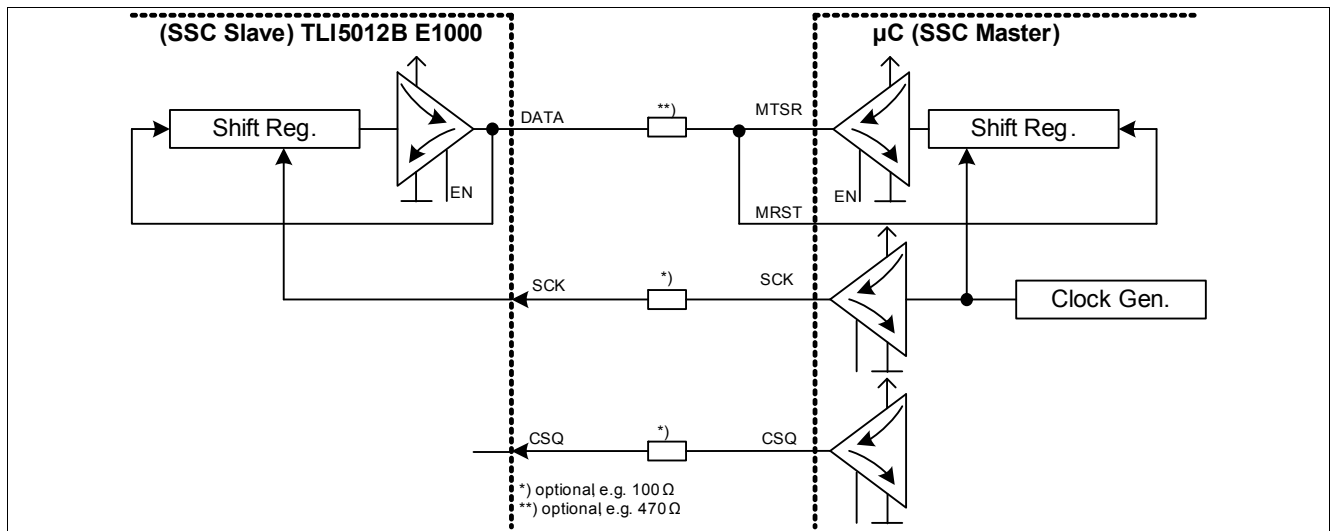

**Figure 3-1 Application circuit for TLI5012B E1000 with IIF interface and SSC (using internal CLK)**
**Figure 3-1** shows a basic block diagram of a TLI5012B E1000 with Incremental Interface and SSC configuration. The derivate TLI5012B E1000 is by default configured with push-pull IFA (IIF\_A), IFB (IIF\_B) and IFC (IIF\_IDX) pins.
In **Figure 3-1** the SSC interface has the default push-pull configuration (see details in **Figure 3-2**). Series resistors on the DATA, SCK (serial clock signal) and CSQ (chip select) lines are recommended to limit the current in the erroneous case that either the sensor pushes high and the microcontroller pulls low at the same time or vice versa. The resistors in the SCK and CSQ lines are only necessary in case of disturbances or noise.